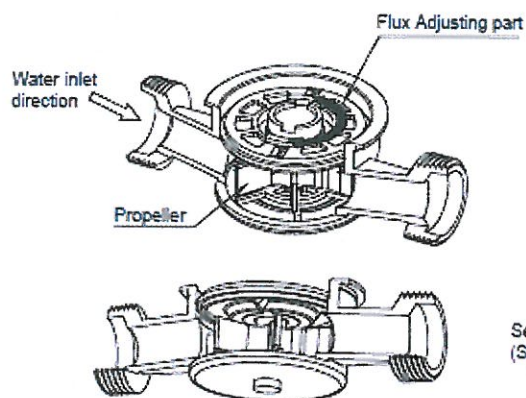

Figure 1
- The effect on the water propeller is changed by rotating the flux adjustment piece and brought to the desired position. (Figure 1)